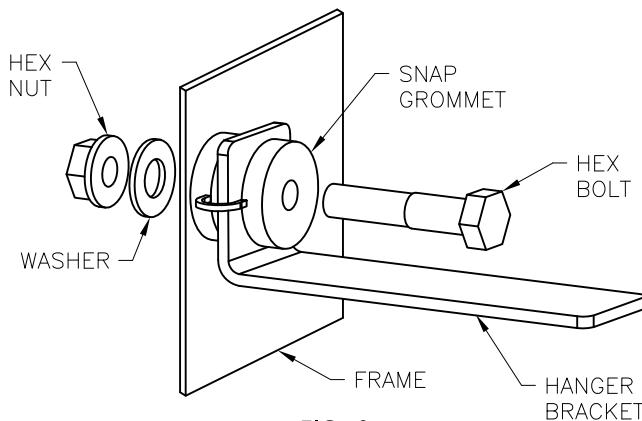

FIG. 3
Step 2: Begin installing the new system by fitting the new mufflers, tailpipes and tru-x assembly into place for a mock up fitment, as shown to the left. This will help to determine where to drill the frame or floorboards for the muffler and tailpipe mounting brackets as shown in Fig. 1 & 3. If the OEM mounting points will not work, fasteners are supplied to be used in place of the hex head bolts if required. Use a 1/2", drill bit for the bolt/nut combo, or use a 5/16" drill bit for the tri-lobular sheet metal screws. You should now also be able to determine where to trim and or modify the inlet pipes if needed. With the system loosely installed, adjust the components for at least 1/2" clearance, including areas with moving parts (axle, driveshaft, etc.). Once a proper fit for the complete system has been achieved using the supplied clamps, the inlet pipes can be welded to the manifold or header flanges. Once the tailpipe brackets are bolted in place as shown in Fig. 3, they can be bent and welded to the tailpipe.